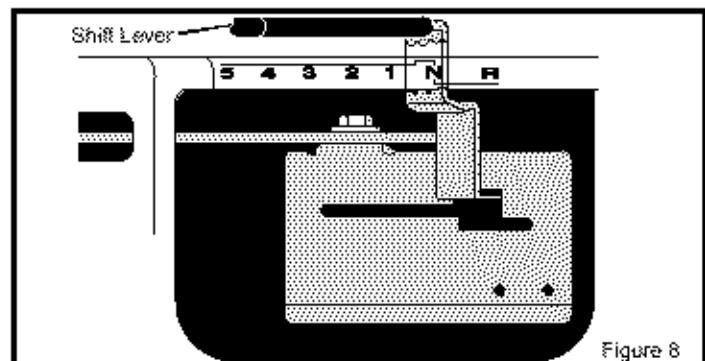

Figure 8
3. To move the **shift lever** to neutral (N) from a forward gear, pull the **shift lever** back and then move to the right (Figure 8).
4. To move the **shift lever** to a forward gear from neutral (N), pull the **shift lever** to the left and then push the **shift lever** forward.
7. To move the **shift lever** to reverse, stop the unit. Move the **shift lever** back to reverse (R).